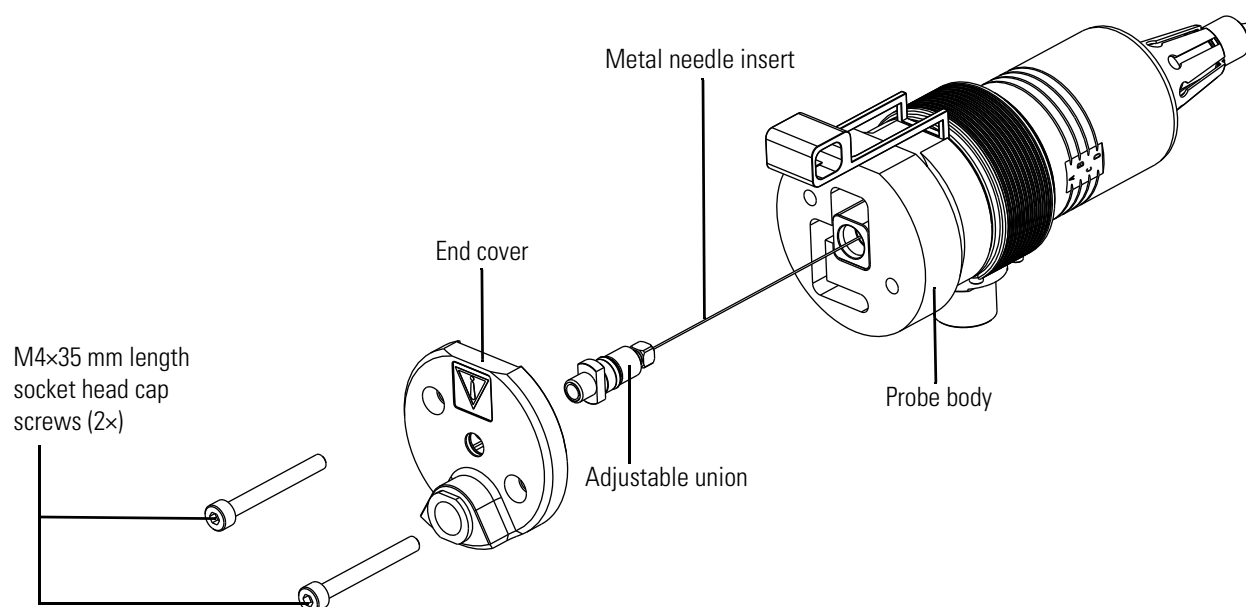

Figure 8-27. HESI-II probe (exploded view)
3. Remove the metal needle insert from the probe as follows (Figure 8-27):